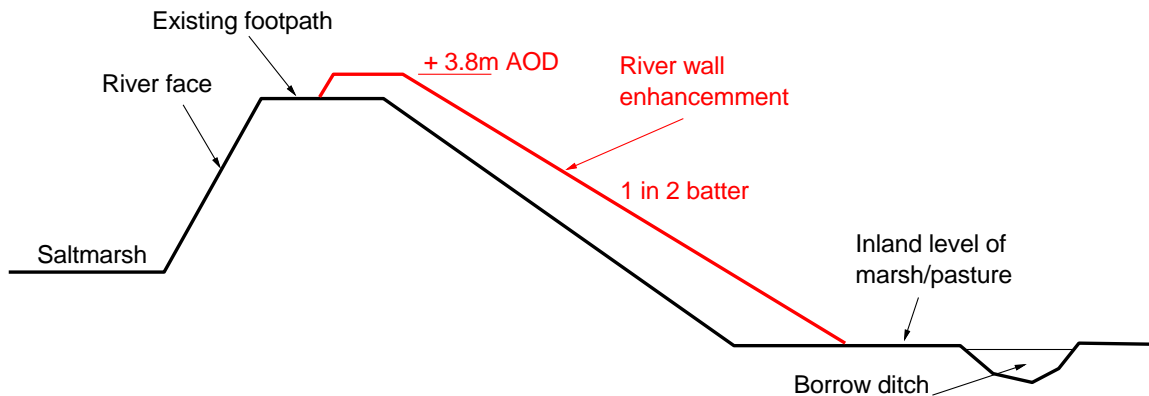

Figure 3: Work on River Wall at Ramsholt – 2014
- The wall back slope was set to a minimum batter of 1:2 (see Figure 3).